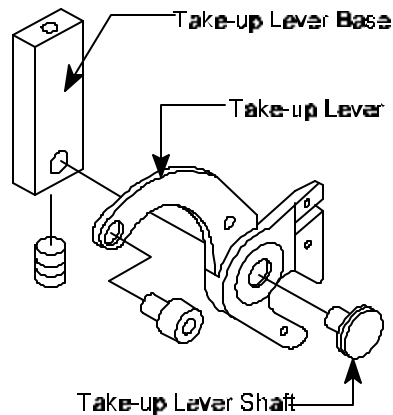

Figure 4
See Figure 4.
9. **Replace** Take-Up Lever Shaft into new Take-Up Lever. See Figure 4.